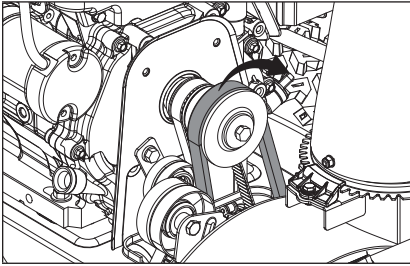

Figure 62
4. Slip the old auger drive belt off the engine pulley. (Fig. 62)